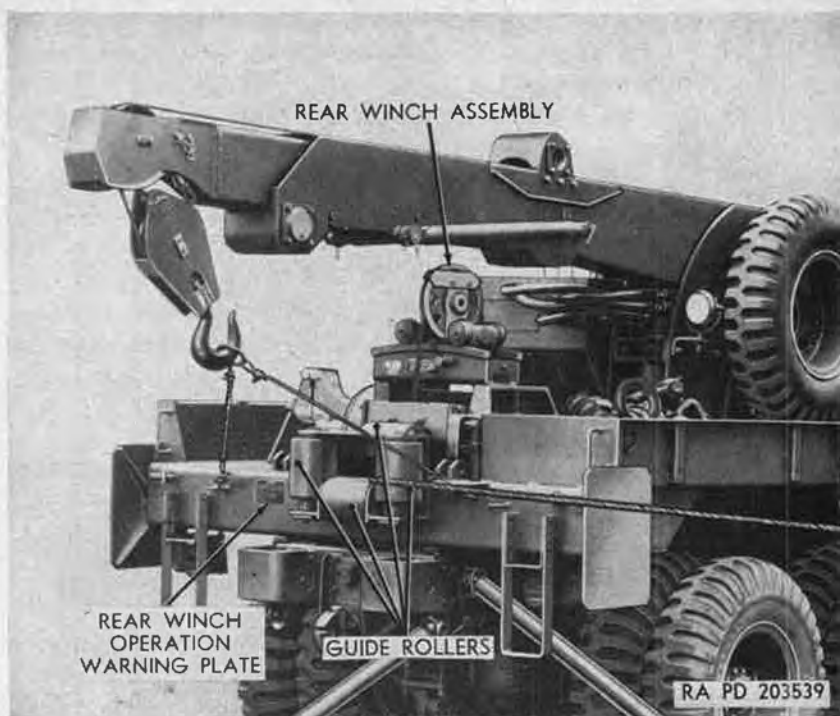
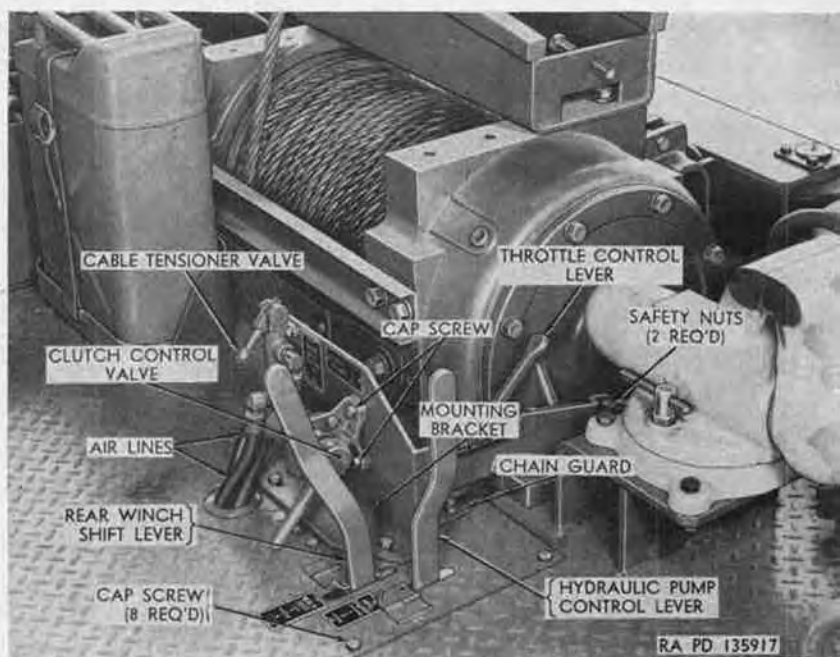

Figure 74. Right rear view of rear winch mounted on vehicle.
Figure 75. Rear winch controls—M62.
- (a) Make sure winch control lever is in (N) (neutral) position.
- (b) Disengage drum jaw clutch (b(2) above).
- (c) Lock winch drum (par b(3) above). If necessary, rotate drum by hand to allow lock plunger to engage the nearest hole on the drum flange.
- (d) Lock level wind (b(4) above), if winch is so equipped. If necessary, move level wind by hand to allow lock plunger to engage hole in frame.
a. Description. The rear winch (fig. 74) is a worm-gear horizontal-drum winch mounted on the rear of the truck. Power for operation of the rear winch is obtained through two propeller shafts extending from the power divider (par. 268a(4)) to a drive sprocket which is connected to the rear-winch drive shaft sprocket by a roller chain. An internal automatic safety brake is provided to sustain the winch load when the winch shift lever is being used to shift the power divider. All rear mounted winches are equipped with a level wind and pneumatically controlled cable tensioner.
- (a) *Engine clutch control valve.* The two-position engine clutch control valve (fig. 75), located immediately forward of the rear winch, is an air valve which controls the air pressure inside a roto chamber (air cylinder) mounted on the right side of the transmission (par. 268a(3)) so as to permit operation of the engine clutch from the rear of the vehicle. Pushing the clutch control valve lever down
- (b) *Rear winch shift lever.* The three-position rear winch shift lever (fig. 75), located to the left of the engine clutch control valve, is used to control the direction of rotation of the winch drum by shifting the winch drive shaft gears inside the power divider (par. 268a(4)). The lever is moved toward the front of the truck as far as it will go for UNWIND, moved to the center of its range of travel for NEUTRAL, and moved toward the rear of the truck as far as it will go for WIND (fig. 40).
- (c) *Cable tensioner control valve.* The two-position cable tensioner valve (fig. 75), located to the right of the engine clutch control valve, is an air valve used to control the air pressure inside an air cylinder which exerts pressure on the winch cable by decreasing the gap between a pair of tensioner sheaves mounted on the front of the winch (par. 268a(1)). The lever is pulled up as far as it will go to OFF (fig. 43) to release the pressure on the cable. Moving the lever down as far as it will go to ON applies pressure (tension) to the cable.
- (d) *Throttle control lever.* The throttle control lever (fig. 75), located to the rear of the engine clutch control valve, is connected by a control rod to the throttle linkage in the engine compartment. This lever is used to control engine speed during rear winch operation. Moving the lever forward to OPEN (fig. 41) increases the engine speed. Moving the lever to CLOSED decreases the engine speed.
- (1) *Vehicle positioning.* The truck is most advantageously positioned when the load attachment point is directly behind the truck. However, guide rollers (fig. 74) at the rear of the winch permit pulling the load at any angle up to 90°, right or left, from the center line of the truck, and at any angle up to 60°, above or below, from the horizontal plane of the winch. The maximum rated pull (45,000 lb) is available only when sufficient cable is off the drum to completely expose the first layer.
- (2) *Unwinding wire rope.*
- (d) Set the throttle level (fig. 75) to give about 1,000 rpm no-load engine speed.
- (e) Move clutch control valve lever (fig. 75) to DISENGAGE (fig. 47), move winch shift lever (fig. 75) to UNWIND (fig. 40) and move cable tension valve lever to OFF position (fig. 43).
is not necessary. However, if the winching load is excessively heavy, the engine speed may fluctuate and it will be necessary to move the throttle control lever (fig. 75) so as to increase the engine speed.
(3) *Hydraulic pump and controls.* A vane-type hydraulic pump (par. 268a(6)) is used to power the hydraulic crane. The pump is set in motion by operating the hydraulic pump control lever (fig. 75) after the power divider is engaged (par. 39). To operate the hydraulic pump control lever, it is necessary to disengage the engine clutch, using the clutch control valve lever (par. 52b). A governor valve mounted on the power divider (par. 268a(4)) governs the engine speed at 1,500 rpm (full load) during crane operation.
- (c) Disengage the engine clutch from the rear of the vehicle using the clutch control valve lever (par. 52b(2)(a)), and move the hydraulic pump control lever (fig. 75) forward to ENGAGE position. Engage the engine clutch.
- (d) Pull the throttle control lever (fig. 75) forward to OPEN position.